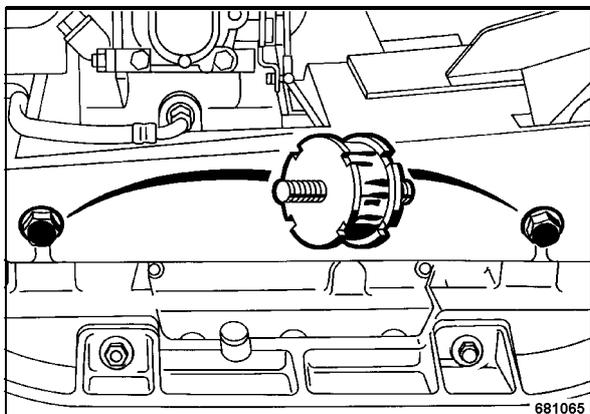

Fig. 80
- Check the condition and tight fit of the rubber buffers (Fig. 80) on both sides, change if necessary.